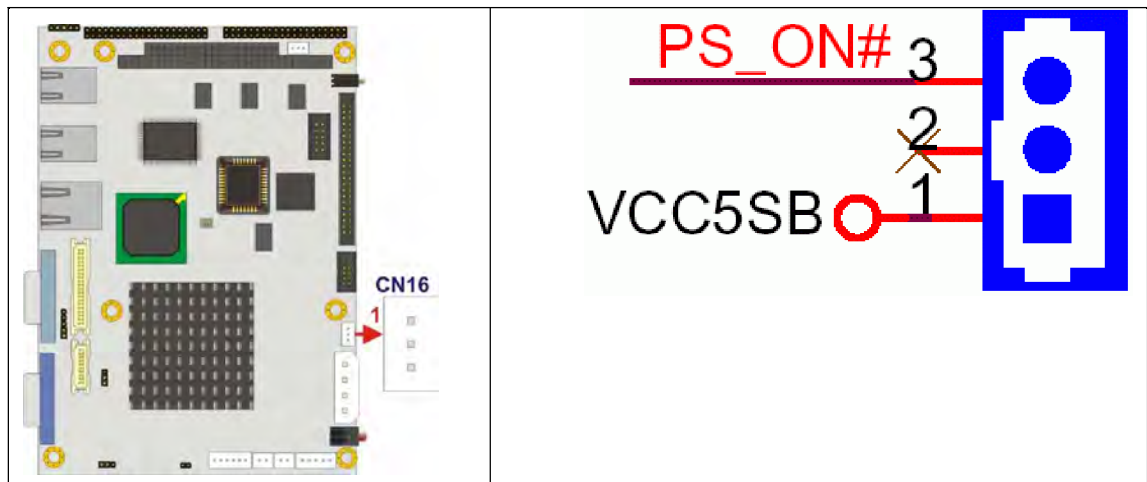

Figure 4-4: ATX Power Supply Enable Connector Location
- CN Location:** See Figure 4-4